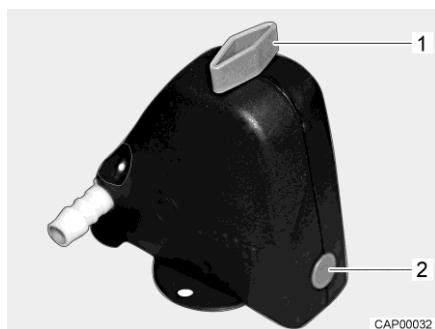
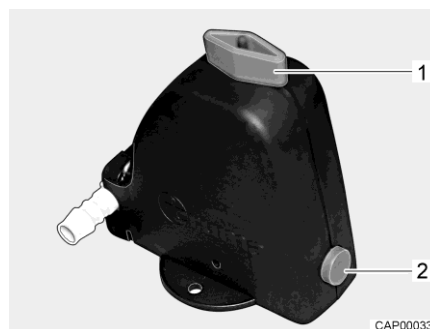

Fig. 105 Safety/drainage valve closed
Fig. 106 Safety/drainage valve open
- Open the safety/drainage valve (Fig. 105). To do this, turn the knob (Fig. 105,1) parallel to the safety/drainage valve. The push button (Fig. 105,2) jumps out. The open safety/drainage valve is shown in Fig. 106.